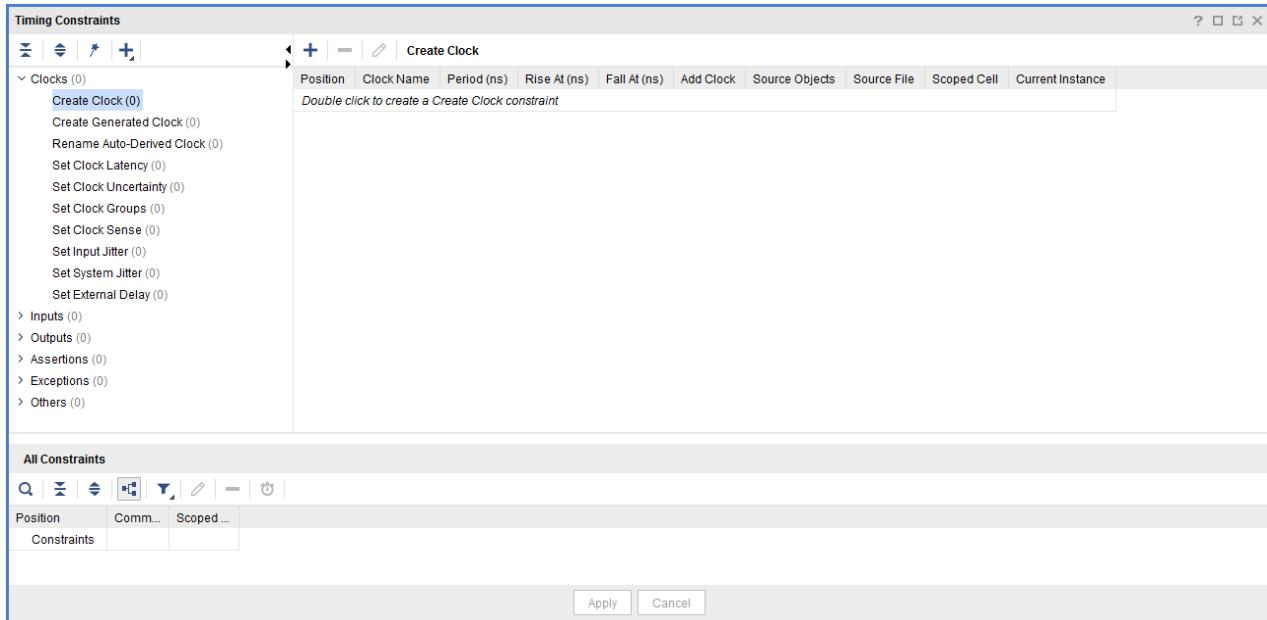

Figure 6.10: Timing Constraints window
- **Edit Timing Constraints:** Open the Constraint Viewer (formerly called the Constraints Editor). The Timing Constraints window appears in the main window of the Vivado IDE, see Figure 6.10.